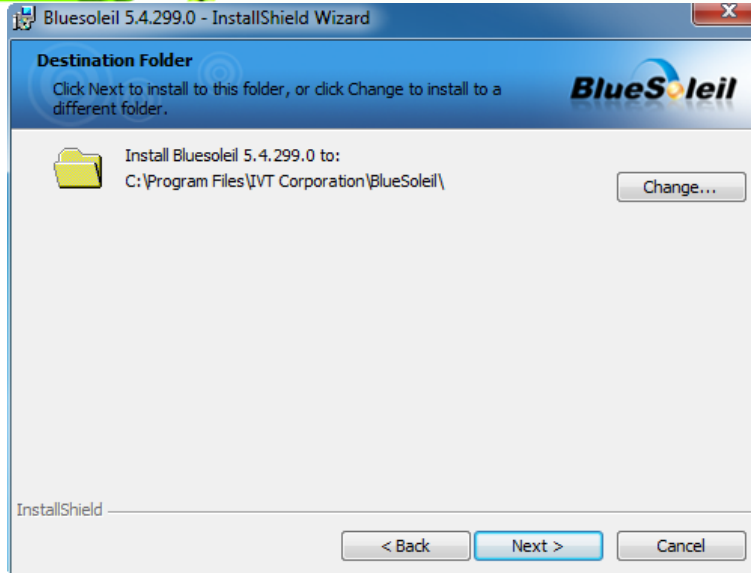

Figure 5-42: Bluetooth Driver Destination Folder
Step 8: Browse for an install location or use the one suggested (**Figure 5-42**) and click **NEXT**.